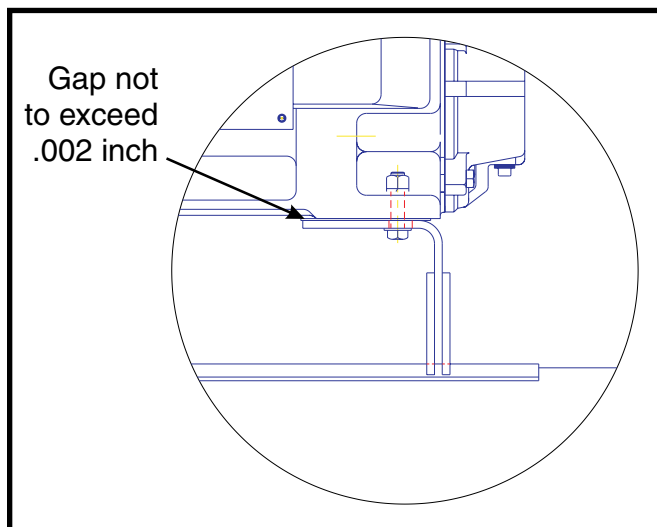

Figure 27. Shim motor feet to less than .002 inch gap
9. While the motor is still supported, shim any feet that exhibit a gap (gauge reading + .002"). A pry or jack can be used to lift the compressor .002". Reinstall and tighten bolts in feet. Then, bolt the motor to the mounting base and torque the motor mounting bolts to 250 ft-lb. Reference Figure 27.